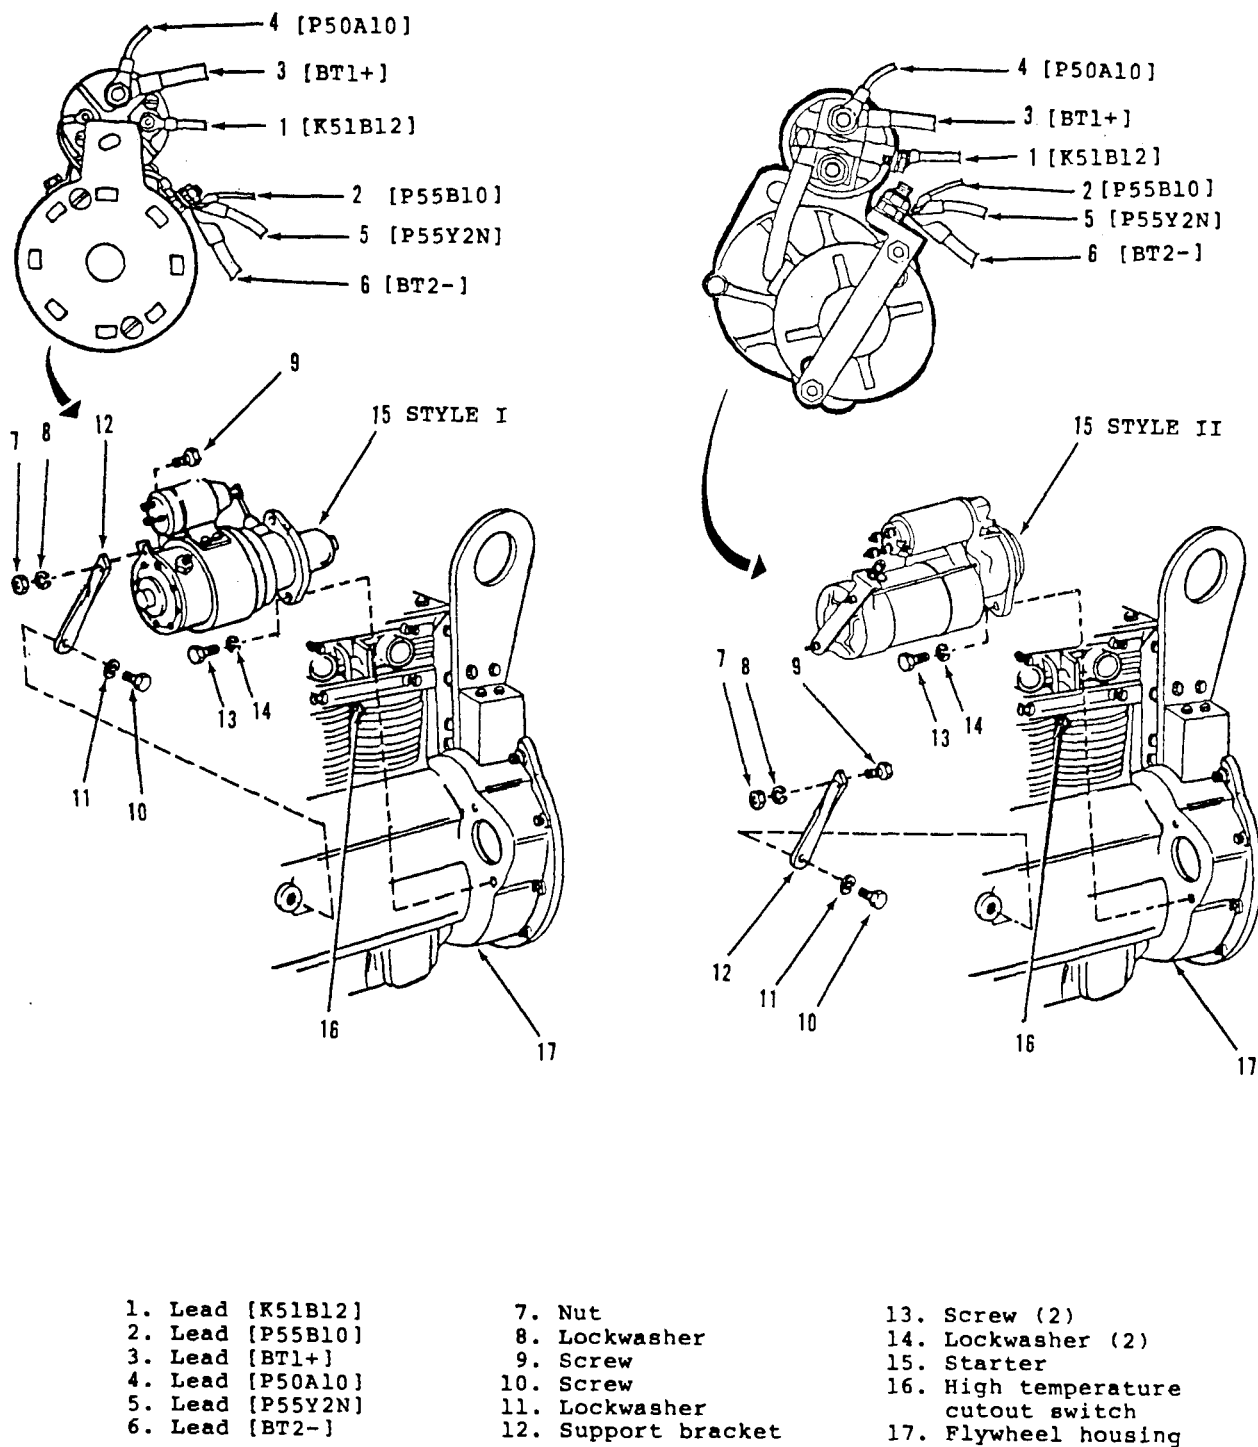

Figure 4-18. Engine Starter installation
b. Removal (see figure 4-18). On ASK equipped generators remove batteries access door. Tag and disconnect leads (1) thru (6). On Style I Starters, remove nut (7), lockwasher(8), screw (9). Loosen but do not remove screw (10), lockwasher (11) and swing support bracket (12) down and away from starter. On Style II Starter, support bracket is not fastened to the starter, loosen screw (10), lockwasher (11) and swing support bracket down and away.
(a) Connect continuity tester as shown in figure 4-18, Test c. An open circuit indicates a defective field coil.
g. Install Starter. Refer to figure 4-18. Slide starter into opening in flywheel housing (17). Make certain starter lies flat against housing. Attach starter to housing with screws (13) and lockwashers (14). For Style I Starter, swing support bracket(12) into position at back of the starter, and attach with screw (9), nut (7) and lockwasher (8). Tighten screw (10) and lock washer (11) securing support bracket (12) to engine block. Replace tagged leads per diagram, figure 4-18. Remove tags.